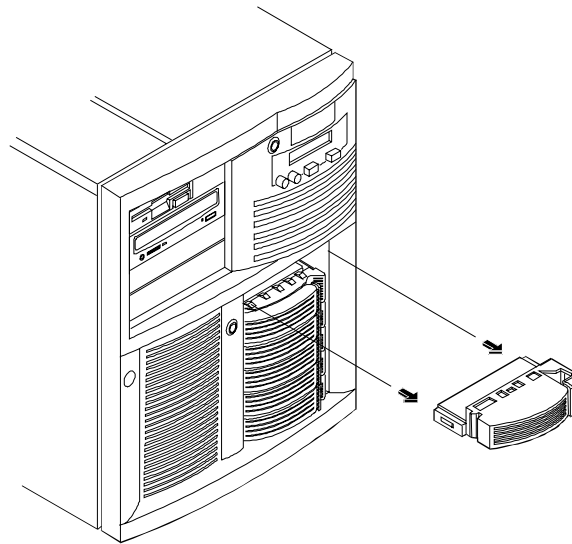

Figure 6-2. Removing a Mass Storage Filler Panel
- Pull the filler panel straight out (see Figure 6-2).